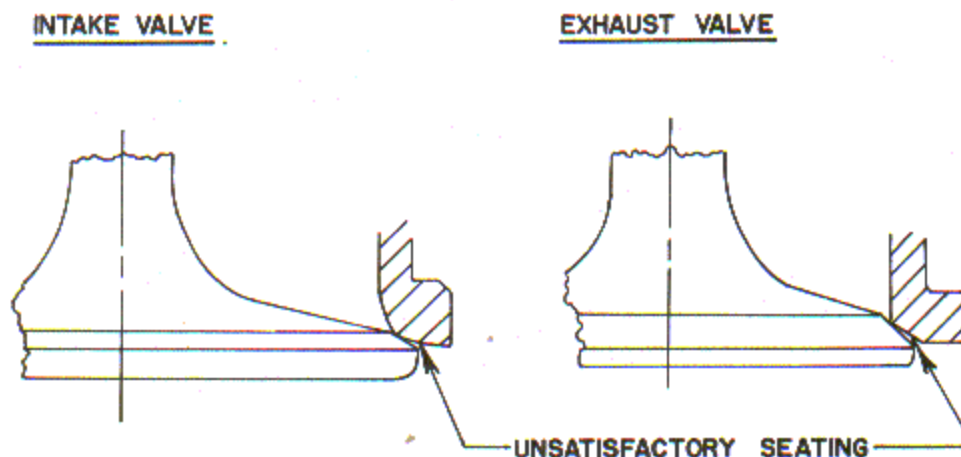

Figure 6-7. Unacceptable Valve Contact with Seat Face
4. In figure 6-20 of basic O-540 overhaul manual substitute dimensions .106/.091 for dimensions .077/.058 for exhaust valve seat. Figure 6-7.